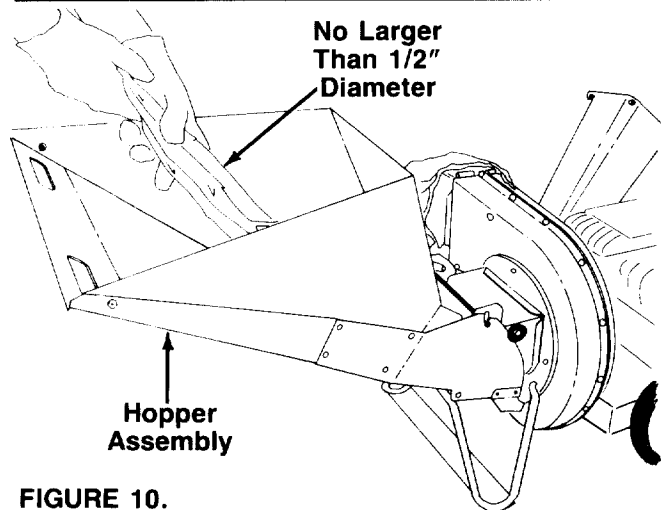

FIGURE 10.
- Leaves and small branches up to 1/2" diameter can be fed into the hopper assembly when it is in the raised position. See figure 10. If it becomes necessary to push material into the chipper-shredder, use a small diameter stick—NOT YOUR HANDS. The stick should be small enough that it will be ground up if gets into the impeller assembly.